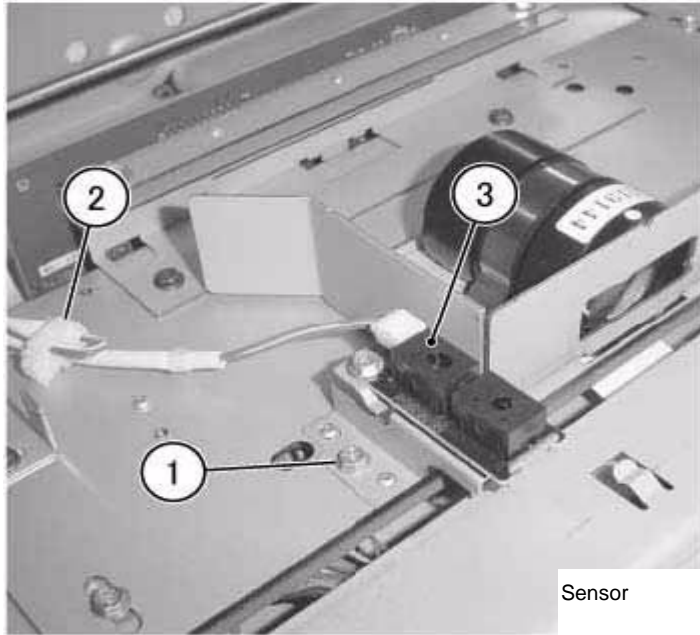

Figure 2 Removing the APS Sensor
3. Remove the APS Sensor. (Figure 2)